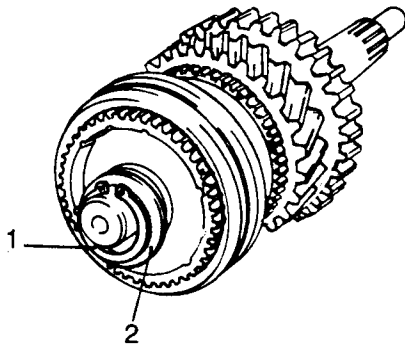

Fig H1.139
- (2) Refer to Fig H1.139. Remove the spring ring (1) and the adjusting washer (2) from the mainshaft.